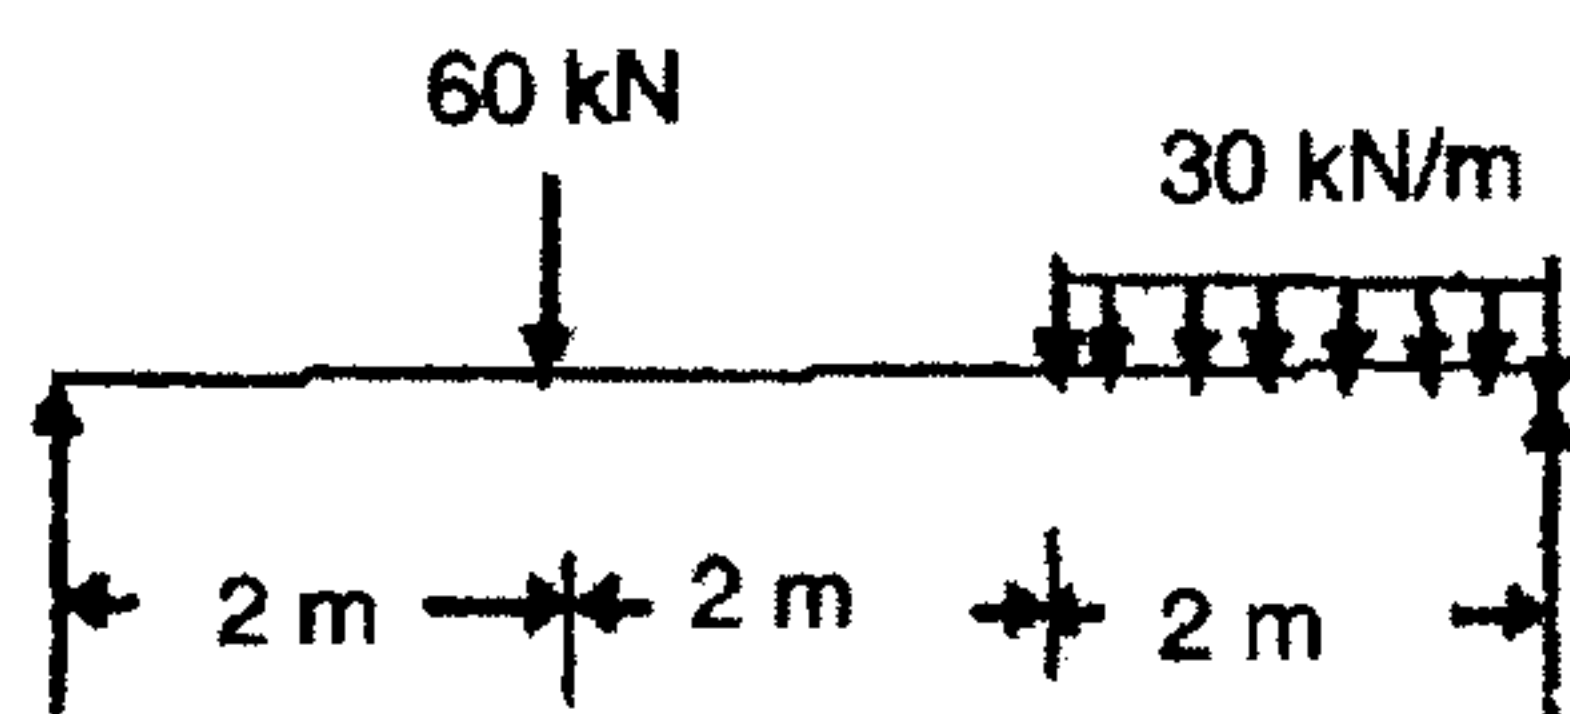

Fig. 1
9. Find the maximum deflection and maximum slope for the simply supported beam loaded as shown in Fig. 1. Take  $EI = 15 \times 10^3 \text{ kN-m}^2$ .